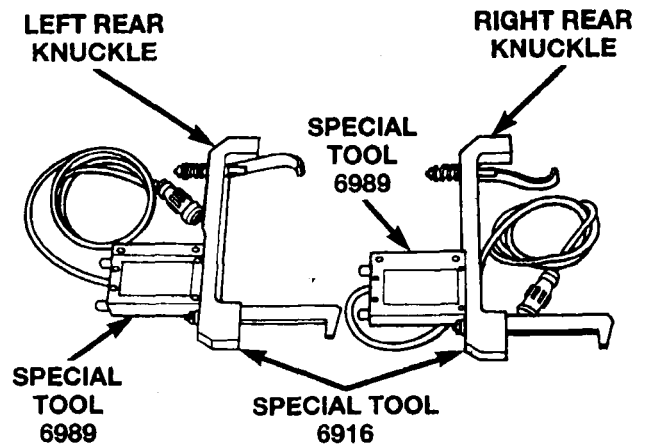

Figure 56
- k. Rotate the inclinometers 180 degrees in place, then **press enter again** to calibrate both inclinometers in the other direction. The inclinometers are now ready to be installed on the vehicle (Figure 56).
- 6. Mount the inclinometers to the rear Caster Angle Fixtures (Special Tool #6916) (Figure 56).